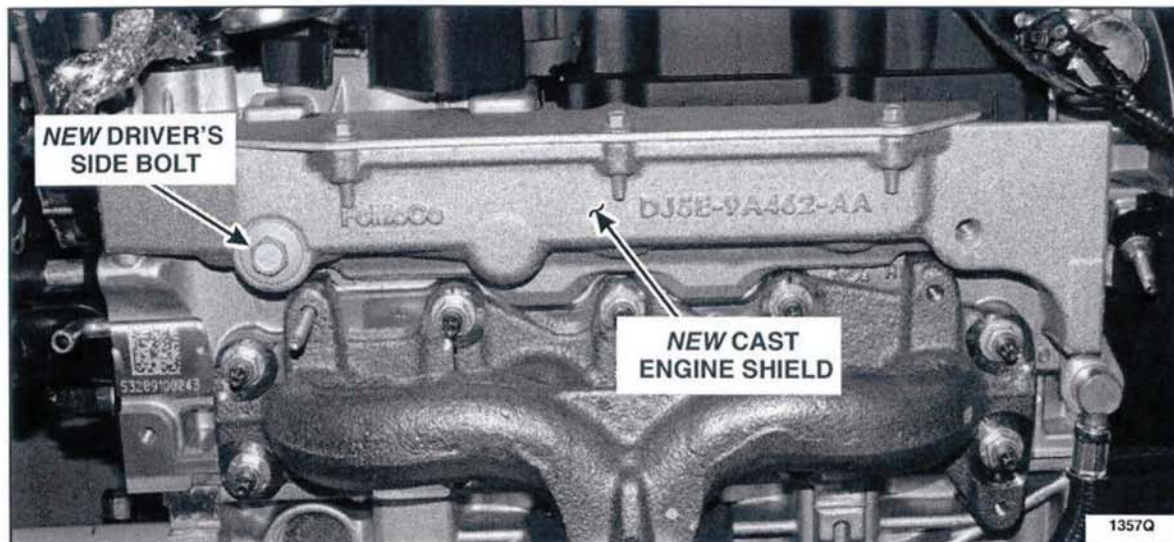

FIGURE C7
8. Carefully position the *new* cast engine shield to the rear of the cylinder head and install the *new* driver's side bolt finger tight. The LOCTITE® patch on the bolt will only allow you to install it a few threads. See Figure C7.